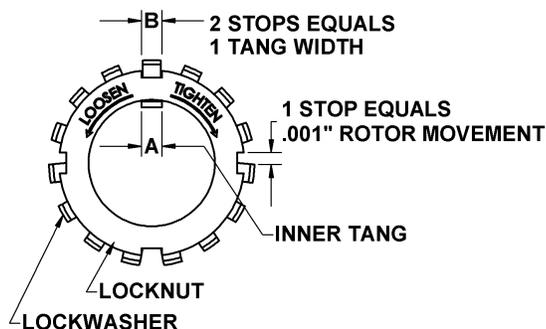

Figure 11 - Locknut Adjustment
12. Rotate the shaft by hand to engage the mechanical seal drive tangs, and to test for binding or tight spots. If the rotor does not turn freely, lightly tap the rims of the heads with a soft faced mallet until the correct position is found. Install all of the remaining head capscrews (21) for each head (20) and uniformly torque to 30 lbs ft (40.7 Nm).
It is important that the bearing locknuts (24A) and lockwashers (24B) be installed and adjusted properly. Overtightening locknuts can cause bearing failure or a broken lockwasher tang. Loose locknuts will allow the rotor to shift against the discs (71), causing wear. See Figure 11.